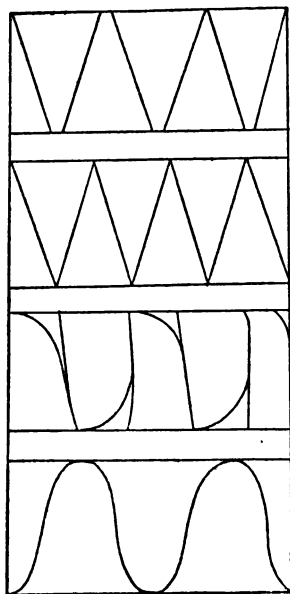

Fig. 16.
**Trimming Cutting, &c.,** including springs, bindings, beadings, button-pieces, facings, indeed all the small pieces necessary for their completion. For particulars regarding webbing, refer to "Choice and Purchase of Materials." Springs may be cut without waste by placing the patterns as shown in Fig. 16. Select your webbing of the required width. If both sides are alike, it matters not